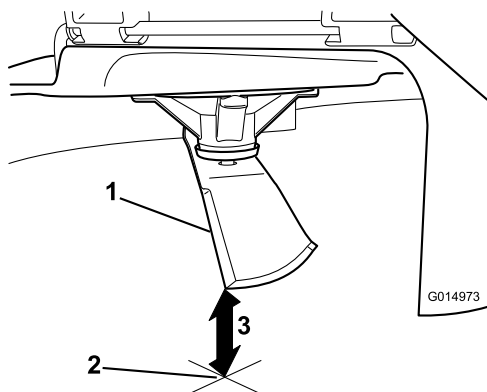

Figure 53
3. Measure from the tip of the blade to the flat surface (Figure 53).